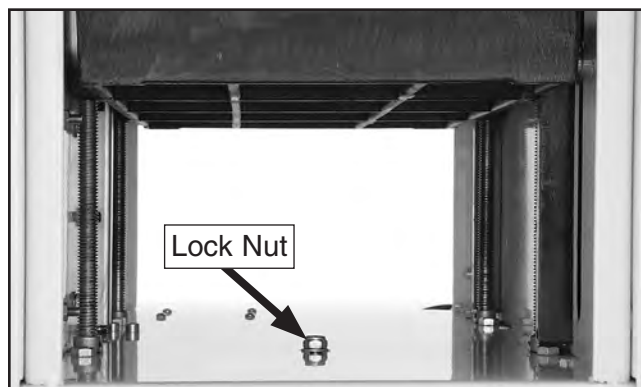

Figure 78. Top idler sprocket lock nut (viewed from planer table infeed side).
3. Loosen the two lock nuts on the idler sprocket (**Figure 78** and **79**) and move the sprocket behind the chain to tighten it.